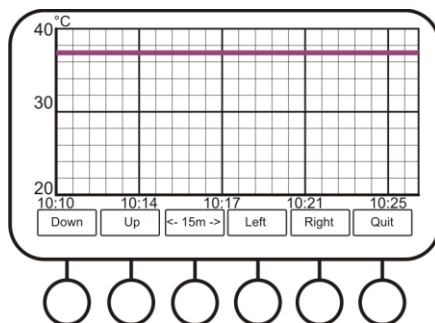

Figure 13. Temperature plot
5.9.5.1 All **View Plot** options use following interface. Figure 13 shows the temperature plot in relation to time.